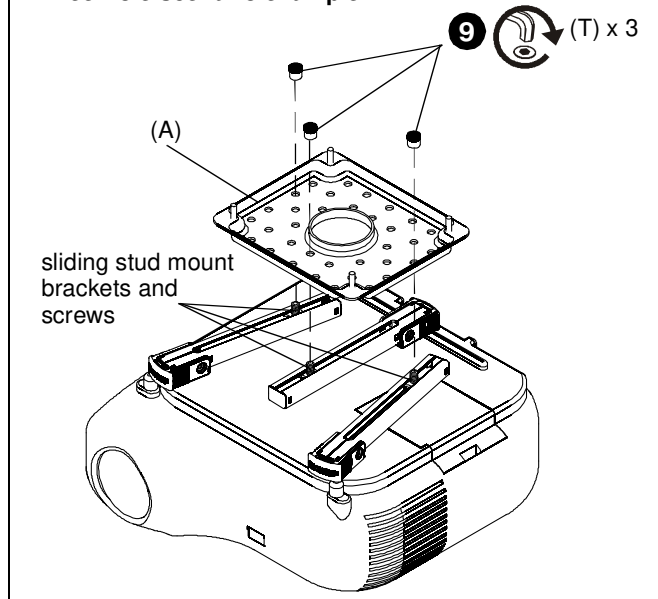
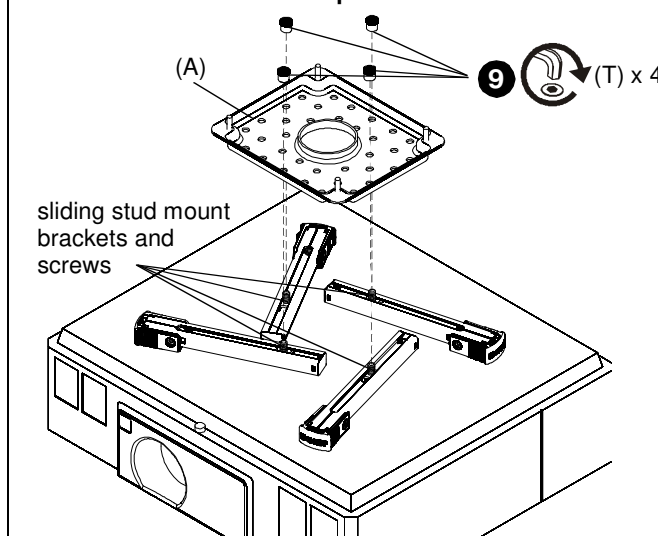

Figure 6
Figure 7
7. Maneuver legs so that sliding stud mount brackets and screws are towards the middle of the projector. (See Figure 6) and (See Figure 7)
8. Position sliding stud mount brackets and screws so that SLBU or SLMU main plate (A) can be evenly mounted to legs. (See Figure 6) and (See Figure 7)
9. Use 1/4" hex key (U) to secure Allen nuts (T) to screws on sliding stud mounts. (See Figure 6) and (See Figure 7)